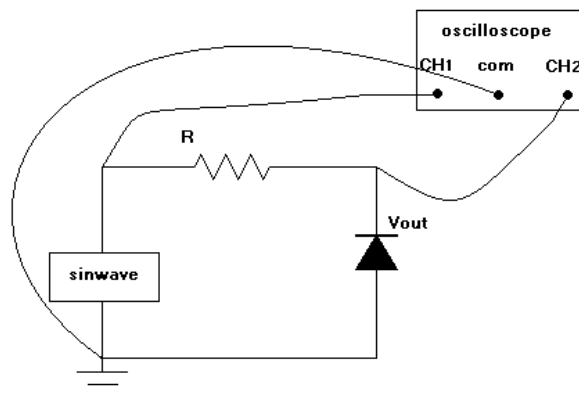

Figure 5.11
8. Sketch the output wave form of the circuit in figure5.11. Is this circuit considered as a rectifier?